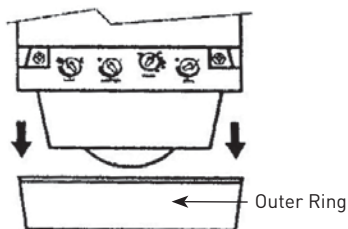

Fig. 24
1. Take the outer ring off the sensor head. (See Fig. 24).